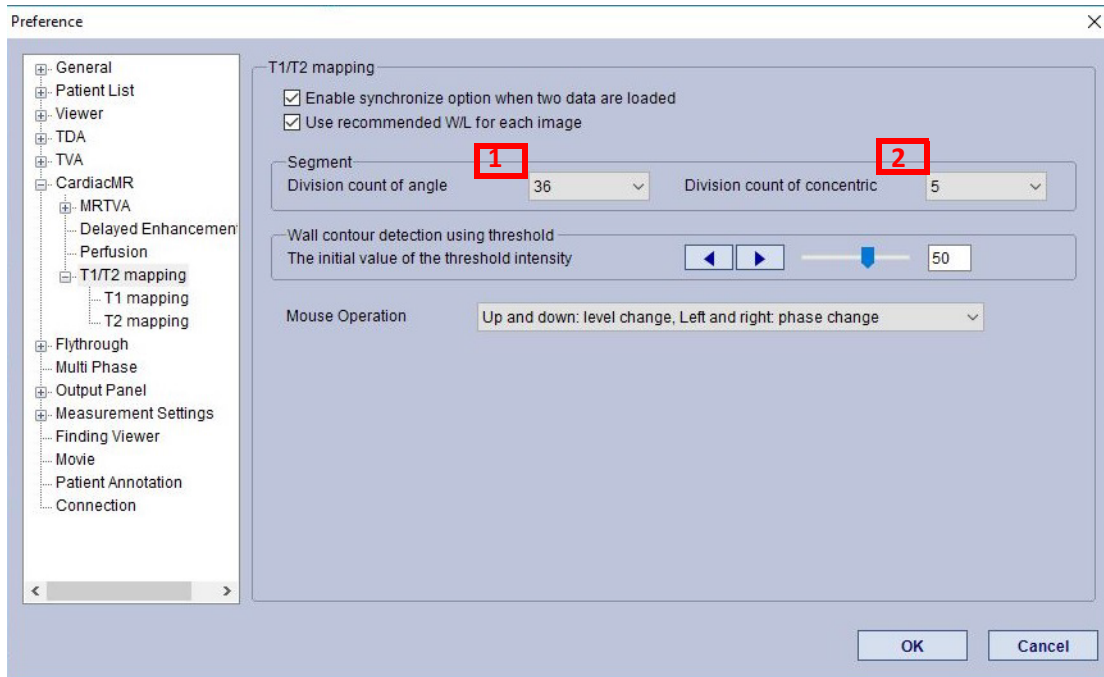

Figure 17-2T1/T2 Mapping Settings in the Preference Window
10. Select the **Next** button to go to the **Results** tab. Calculations begin to run. The **Preferences** setting determines the layout of the images in the **Result** tab. See the selected setting in Figures 17-2 and 17-3.